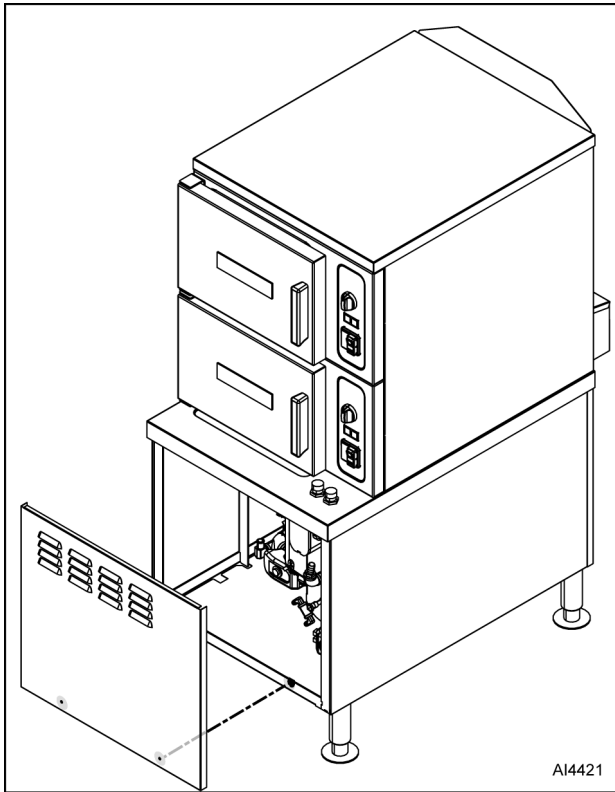

Fig. 8
1. Remove two screws from locations noted in Fig. 8.